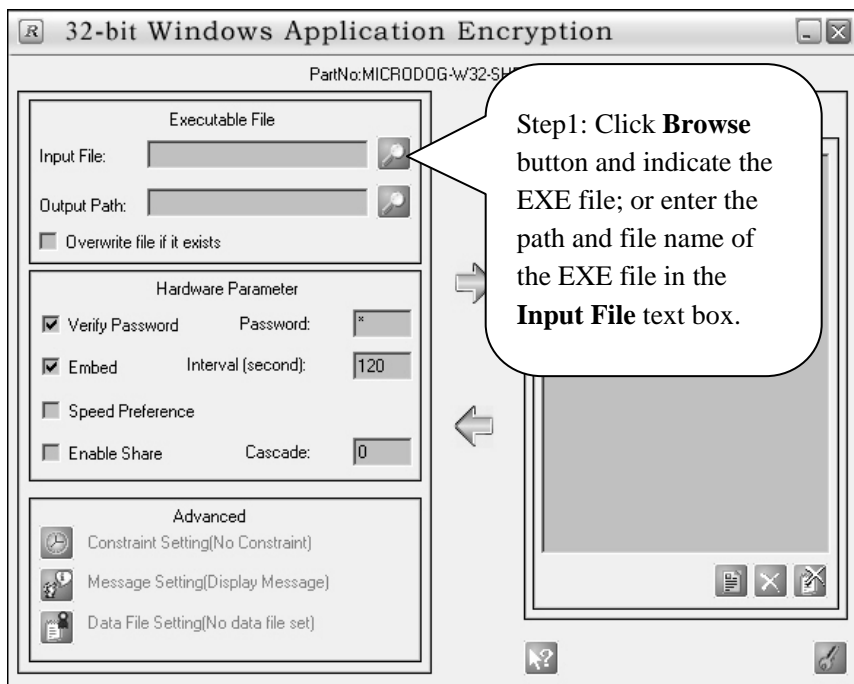

Figure 4-1
1. Plug into the Hardware Dog first, following the Step 1 described on Figure 4-1 to indicate the EXE program that will be encrypted.